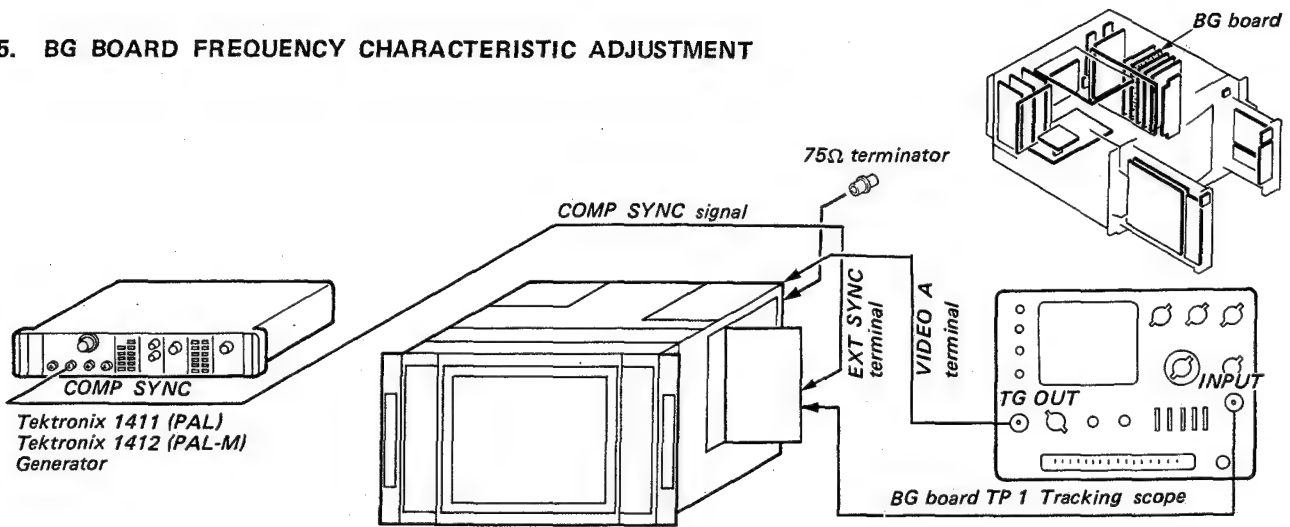
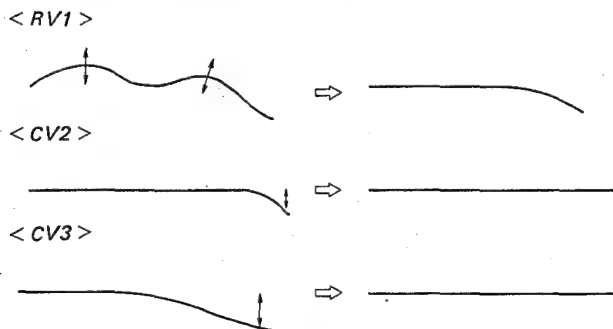

Fig. 5-1
Fig. 5-2
- Complete the connections as shown in Fig. 5-1.
- INPUT selector (FRONT PANEL (R)) A ()
- SYNC selector (FRONT PANEL (R)) EXT ()
- Adjust RV1, CV2 and CV3 of the BG board so that the output waveform becomes flat in a range of 0 to 10MHz as shown in Fig. 5-2. (within $0 \pm 0.5\text{dB}$)